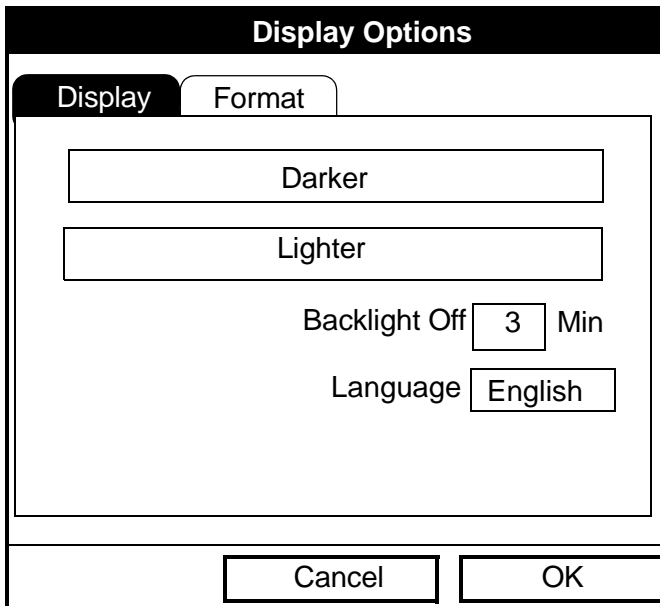
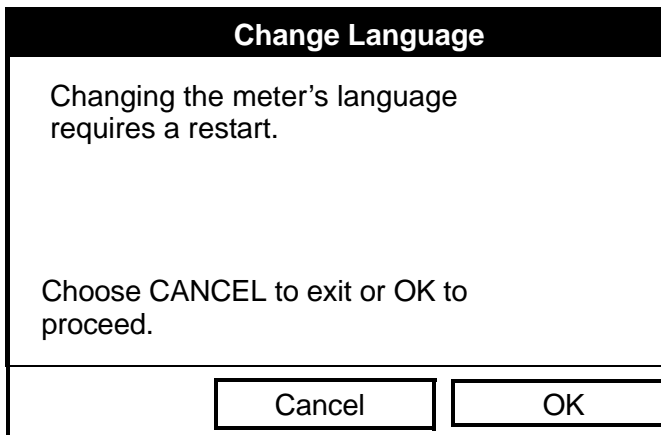

Figure 80: Display Tab in the Display Options Window
Figure 81: Confirmation Window for Language Change
1. From the Meter menu, scroll to the Contrast entry and press [ENTER]. The Display Options window opens on the Display tab, as shown in Figure 80 below. (From the Format tab, press the [◀] key to move to the Display tab.) To step through each parameter, press the [▼] key.
1. From the Meter menu, scroll to the Backlight entry and press [ENTER]. The Display Options window opens on the Display tab, as shown in Figure 80 on page 120.
- To confirm the entries and return to Operate mode, press [F3] (OK). The PT878 returns to Operate Mode.
1. From the Meter menu, scroll to the Language entry and press [ENTER]. The Display Options window opens on the Display tab, as shown in Figure 80 on page 120.
5. Press [ENTER] to confirm the entry, and [F3] (OK) to close the option.
6. Since changing the language requires restarting the PT878, a window (shown in Figure 81 below) opens, asking that you confirm the change. Press [F2] to cancel the change or [F3] to confirm the change.